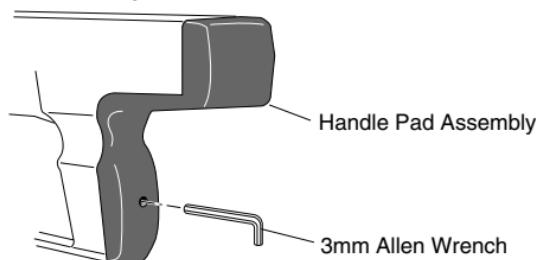

*Figure 4 - Removing Piston Assembly from Barrel*
6. Pull piston assembly, using moderate force, from barrel (see Figure 4).